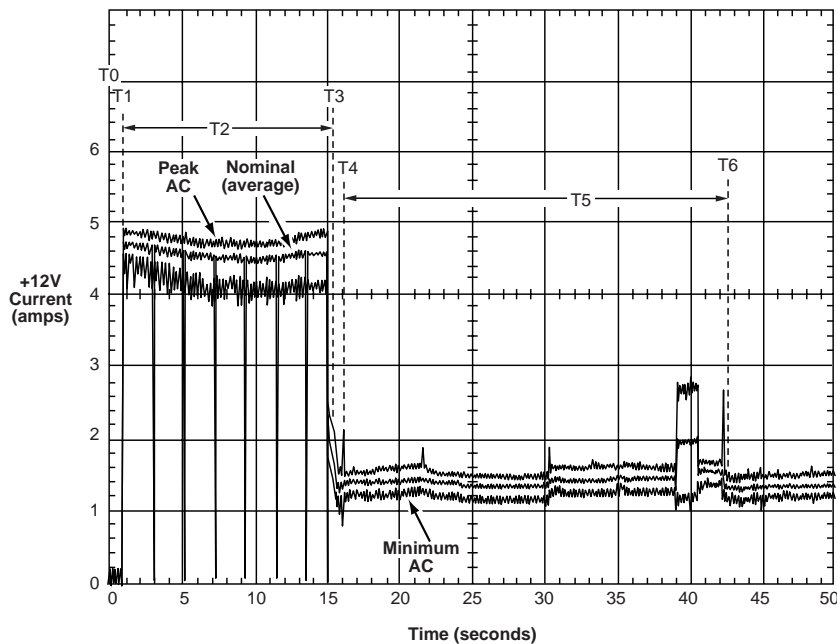

Figure 3. Typical Elite 23 drive +5 V and +12 V current profile
- [3] See +12 V current profile in Figure 3.
Figure 3 identifies the drive +5 V and +12 V current profile. The current during the various times is as shown.